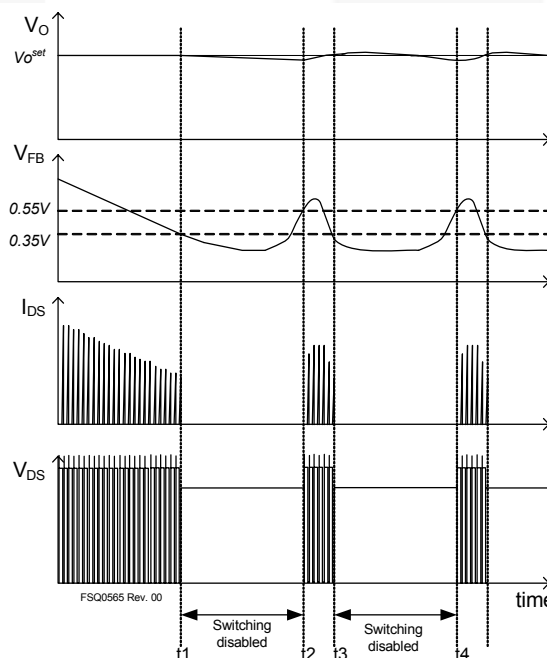

Figure 34. Waveforms of Burst Operation
**6. Burst Operation:** To minimize power dissipation in standby mode, the FPS enters burst-mode operation. As the load decreases, the feedback voltage decreases. As shown in Figure 34, the device automatically enters burst-mode when the feedback voltage drops below  $V_{BURL}$  (350mV). At this point, switching stops and the output voltages start to drop at a rate dependent on standby current load. This causes the feedback voltage to rise. Once it passes  $V_{BURH}$  (550mV), switching resumes. The feedback voltage then falls and the process repeats. Burst-mode operation alternately enables and disables switching of the power SenseFET, thereby reducing switching loss in standby mode.